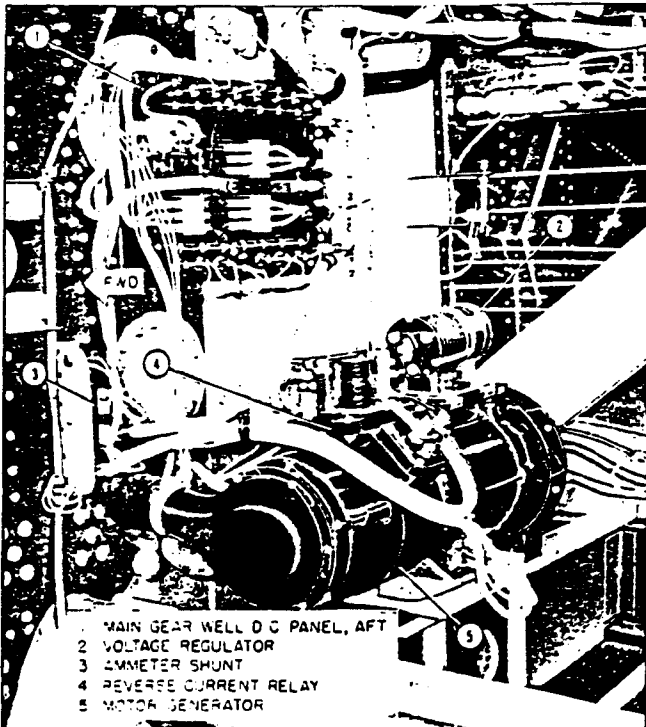

Figure 8. Motor Generator (Installed)
(1) DESCRIPTION.- Two motor generators (figure 8) supply 28 volt d.c. power; each is driven by 208 volts, 3 phase, 400 cycles, a.c. current. Each unit is controlled from the engineer's auxiliary a.c. control panel and is started by throwing the individual control switch to "ON." A 24 volt, 17 ampere hour battery is utilized in the d.c. system for use when the generators are not in operation. The battery circuit is controlled by a switch on the engineer's upper electrical panel. An external d.c. power receptacle is installed in the forward part of bomb bay four.
(h) POWER CONTROL RELAY (Cutler Hammer #9565H1 Type 653).- (See figure 8.) This relay closes the 208 volt a.c. circuit to drive the motor generator. It is a 50 amp., 3 pole, single throw contactor. A relay is mounted on each unit and is remotely controlled by its respective switch on the engineer's auxiliary a.c. power control panel. The relay requires no adjustment by field personnel, and if defective should be replaced.